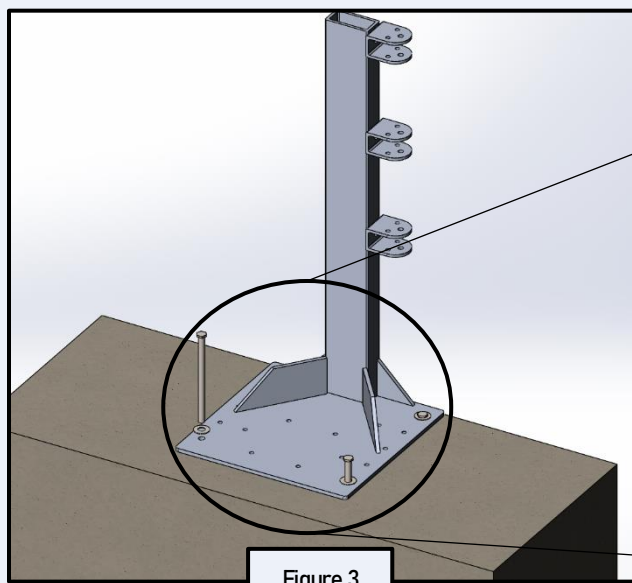

Figure 3
6. Insert the 1/2" X 6-1/2" MAST STOP PIN into the hole located at the top of the MAST and slip one (1) 1/2" washer on either side of the pin as shown in figure 3.
7. Insert one (1) Cotter Pin one each side of the MAST STOP PIN, making sure to spread the ends of the COTTER PIN outward, securing the pin and washers in place (THIS KEEPS THE LIFT FROM OVERTRAVELING WHEN IN USE).